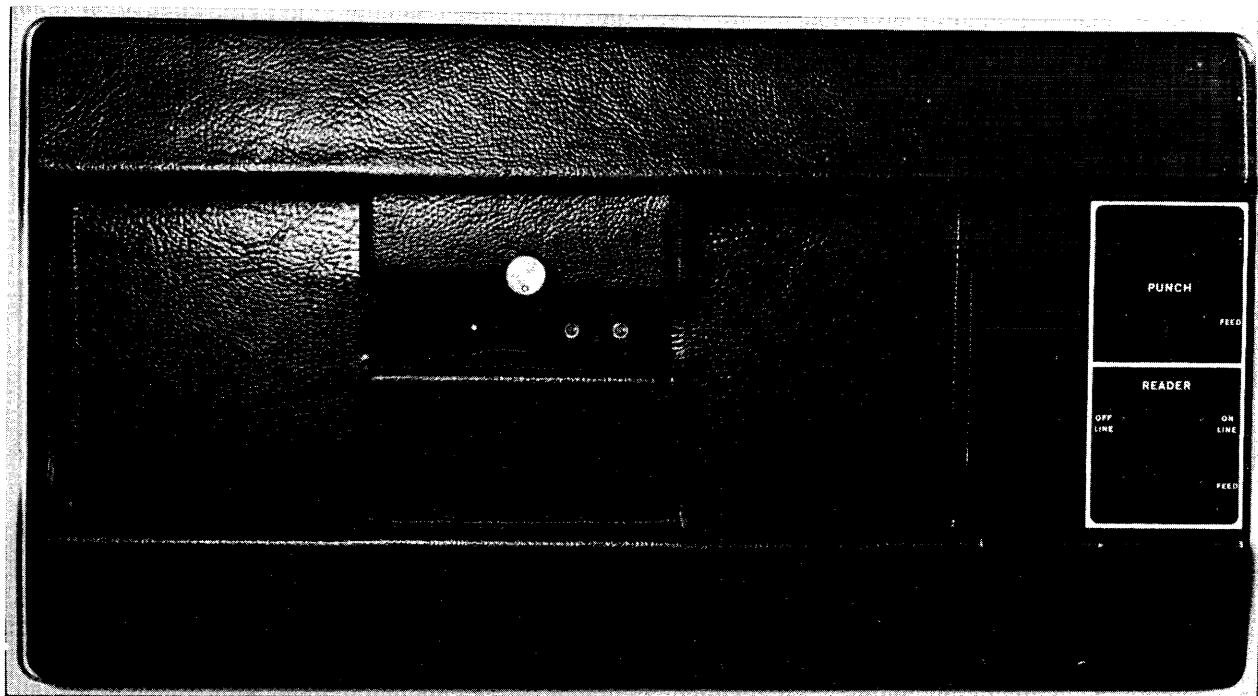

Figure 4-3 Paper Tape Reader and Punch
Front Panel Controls are illustrated in Figure 4-3 and described in Table 4-3.
3. On the tape reader, rotate tape hold-down knob clockwise (Figure 4-3).
2. Press and hold the FEED switch until four or five folds (about three feet) of tape are run into the tape punch output hopper (Figure 4-3).